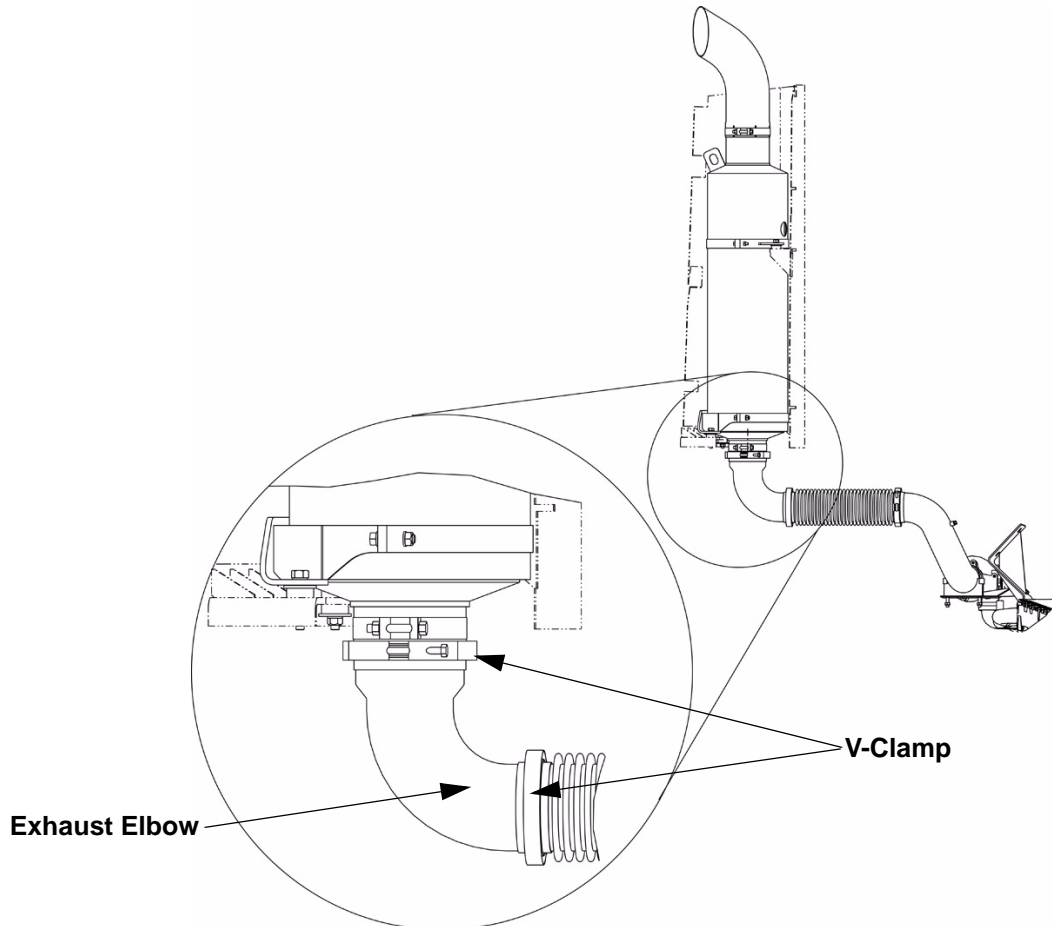

Figure 1-3 V-Clamp
1. Disconnect the exhaust elbow v-clamps. **See Figure 1-3**